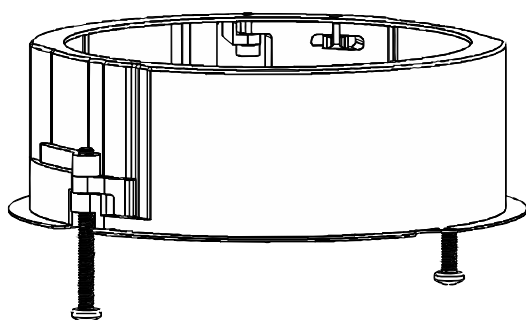
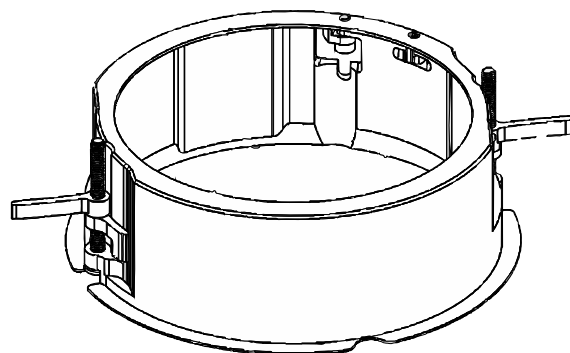

fig 1: Mount with flags at install position
fig 2: Mount with flags at incorrect position
- Remove shipping tape from flags. Ensure mount flags and flag nuts are in install position (Tight to mount body- see Fig. 1 for reference. It should not look like Fig. 2). Allow screws to hang from the mount.
- When bottom flange of mount is firmly against ceiling, use Phillips screwdriver to tighten mount screw (clockwise rotation). Mount flag will swing outwards and begin traveling downwards above the ceiling (Fig. 2).